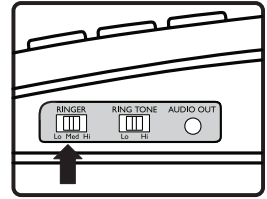

Figure 18
Ringer Volume can be set to one of three (3) positions by pressing the RINGER VOLUME UP or DOWN switch located on the right side of the telephone. See Figure 18.